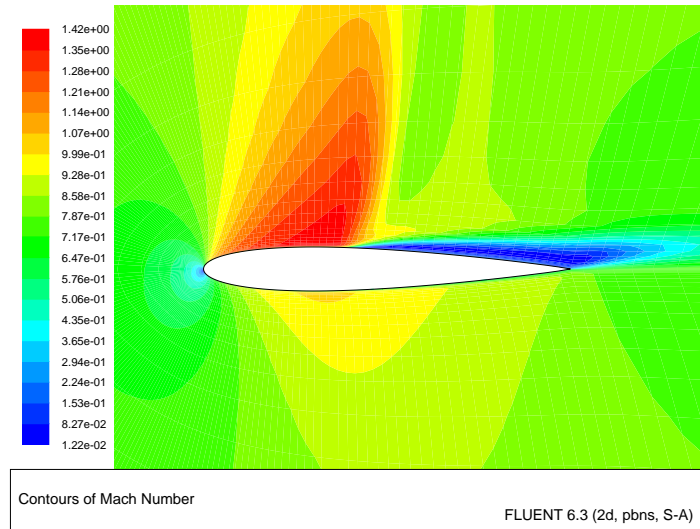

Figure 3.12: Contour Plot of Mach Number
2. Display filled contours of Mach number (Figure 3.12).
- (d) Zoom in on the region around the airfoil, as shown in Figure 3.12.
*Note the discontinuity, in this case a shock, on the upper surface of the airfoil in Figure 3.12 at about  $x/c \approx 0.45$ .*